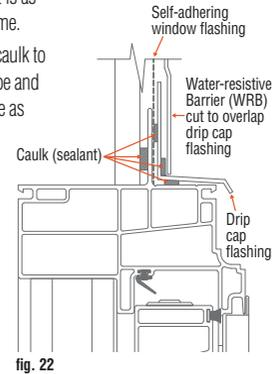

fig. 22
- Apply a continuous 3/8" bead of caulk to the exterior face of the flashing tape and on the top of frame. Caulk must be as long as the drip cap. (fig. 22)
- Place drip cap on top of window, and center its length on the top of window, push tightly down against the caulk. (fig. 22)
- Nail drip cap in place with galvanized roofing nails long enough to penetrate framing material. Place nails every 12" to 16". (fig. 22)